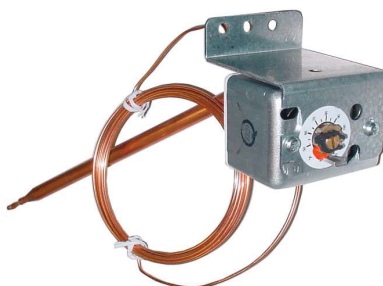

Figure 29. Unit-Mounted Ductstat
- **Ductstat with capillary tubing (option AG3):** The unit-mounted ductstat (see Figure 29) has an adjustable range of 0°F to 100°F (–17.8°C to 37.8°C) with a fixed differential of 3°F (1.7°C). The sensor is factory-set at 70°F (21.1°C). Due to different CFM settings and outside air temperatures, the average downstream outlet temperature may not match the ductstat setting exactly. After the installation is complete, adjust the setpoint of the ductstat to achieve the desired average outlet air temperature.